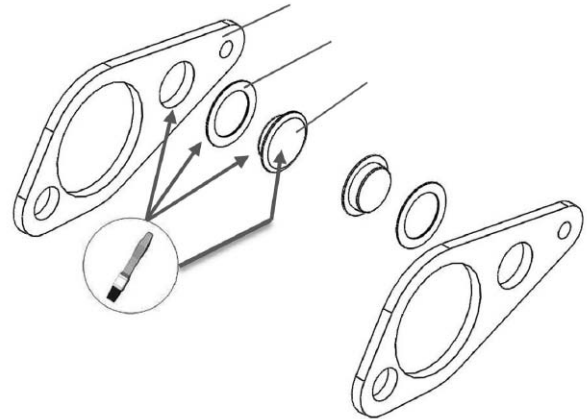

Fig. 22. Lubricate the hole of the plate and between the puck and the shim washer with grease.
11. Lubricate the hole of the plate and between the puck and the shim washer with grease, this will keep them in place. Then lubricate the flat face of the puck with grease. See fig. 22.